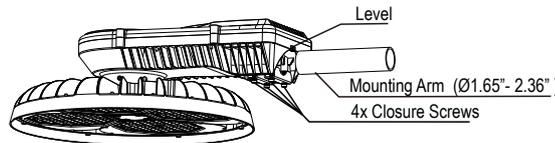

Figure 9
- Put the lamp into the round tube light arm as shown in (Figure 9). Refer to the level to install the lamp level, and then lock the four fixing screws.